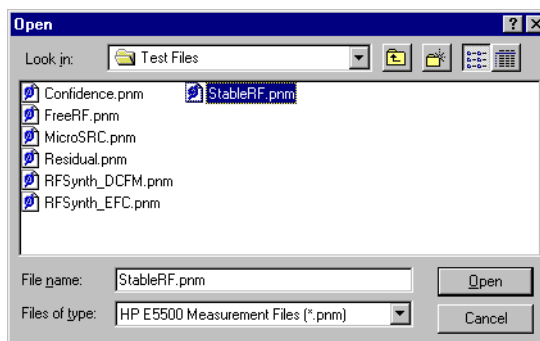

Figure 7-1 Select the Parameters Definition File
- 3 In the File Name box, choose “**StableRF.pnm**”. See Figure 7-1.